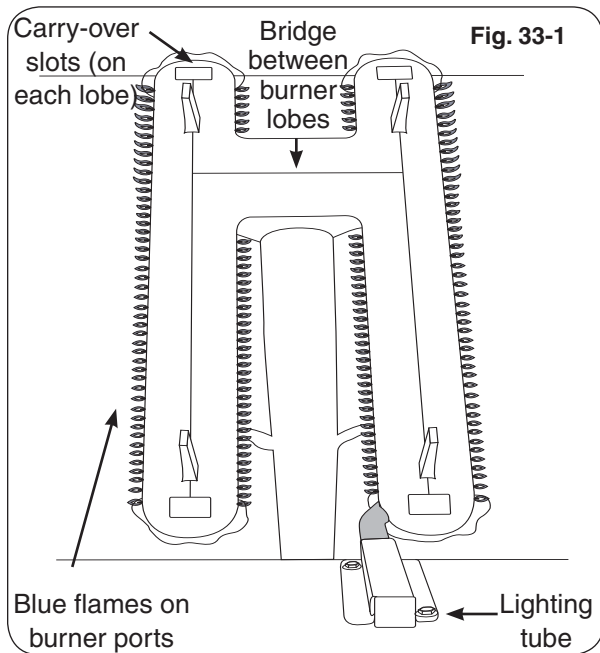

Fig. 33-1
Flames from a properly adjusted main burner with no wind or breeze present will appear fairly steady, consistent, and mostly blue. If the tip of a flame were to turn orange, it should only do so briefly and then become blue again. The flames will appear to burn while touching the burner ports (see Figure 33-1).
5. Repeat steps 1-4 until the flames appear to touch the burner ports, burning fairly steadily and mostly blue (see Fig. 33-1).